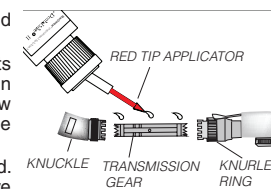

FIG.6
- Place a drop of DentaLube II in the two transmission gear joints between the gear and gear housing and a drop of DentaLube II in the hole in the center of the gear housing. Rotate the gears to allow DentaLube II to work into the bearings. Apply a light coat of DentaLube II to the gear teeth. (Fig.6)